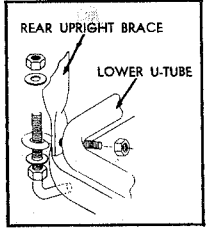

FIGURE 11
16. Make loose connection of Rear Upright Braces (54) to lower U-Tube (55) as shown in Figure 11.